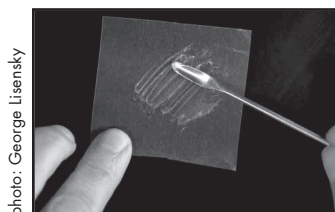

Figure 2. Spreading a thin layer of liquid crystal mixture.
- ___ 2. Peel the backing off one of the contact paper squares. Use a spatula to transfer a small volume of the liquid crystal mixture onto the center of the sticky side of the square and to spread the mixture into a very thin layer. Leave at least a centimeter of sticky area around the edge (Figure 2).